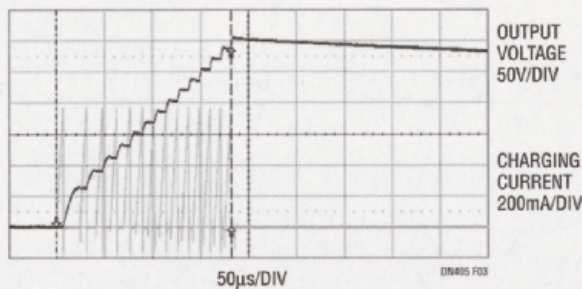

Figure 3. LT3750 Charges 0.1µF to 300V in 180µs
Many devices need to provide energy to a transducer multiple times per second, such as diagnostic equipment and device testers. Figure 3 shows that, for the same circuit
**Figure 3.** This flow chart shows the LED-driver software routine. (See the listings at [www.edn.com/061215di1](http://www.edn.com/061215di1) for the complete tachometer routine.)
You can configure the bar graph to indicate engine speed by the number of LEDs turned on (bar mode) or by illuminating only one or two LEDs (dot mode). The color scheme in **Figure 2** uses yellow LEDs to indicate too-low speed, green LEDs for nominal speed, and red LEDs for excessive speed. **Figure 3** shows the indicator software's flow chart. The processor's internal clock drives Timer0 to overflow every 512  $\mu$ sec, which represents one time slot—that is, a multiplexing phase. Of eight time slots, one drives the three upper LEDs, and a second drives the three lower LEDs. For software simplicity, the last six time slots drive the middle